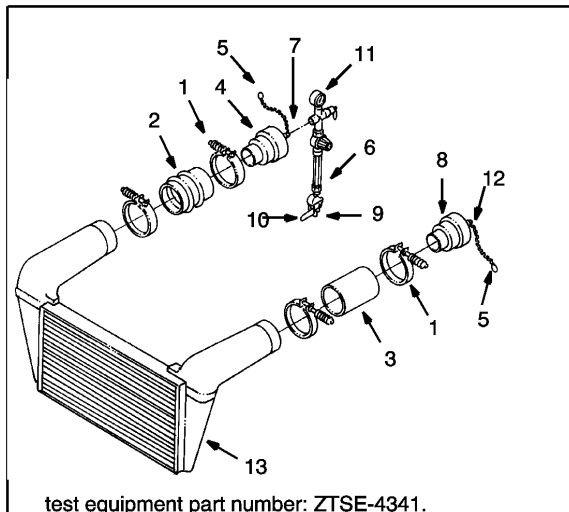

Figure 11 Test Equipment Hook-Up
Refer to Figure 11 for the following items in parentheses, unless otherwise stated.
2. Install the gauge coupler (Item 4, Figure 11) to the charge air cooler hose. Secure the coupler with a clamp so it is AIR TIGHT. Tighten the clamp to the value in the TORQUE CHART (See TORQUE CHART, page 17).
Refer to Figure 11 for the following items in parentheses.